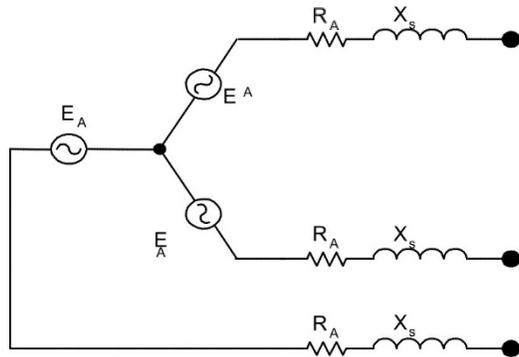
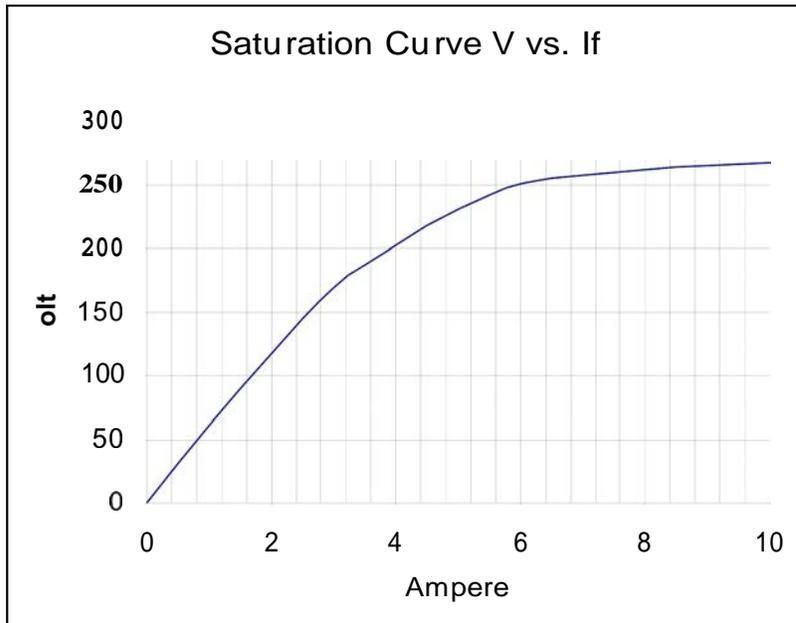

Figure 9.1
FIGURE 9.2
2. A 60 Hz, 10 hp 208 V synchronous motor with a nominal pf of 0.8 leading and wye connected has synchronous impedance (X_s) of 2.7Ω . The windage-friction and iron losses are equal to 400 W and to 250 W respectively. Calculate using the Figure 9.1 and Figure 9.2: